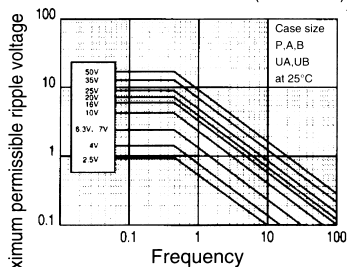

Fig. 6 Maximum permissible ripple voltage (P, UA, A, UB, B)
(2) Ensure that a reverse voltage due to superimposed voltages is not applied to the capacitors.
(3) The maximum permissible ripple voltage varies with the rated voltage, Ensure that ripple voltage does not exceed the values shown in Figs. 6 and 7. If, however, the capacitors are used at a high temperature, the maximum permissible ripple voltage must be calculated as follows: